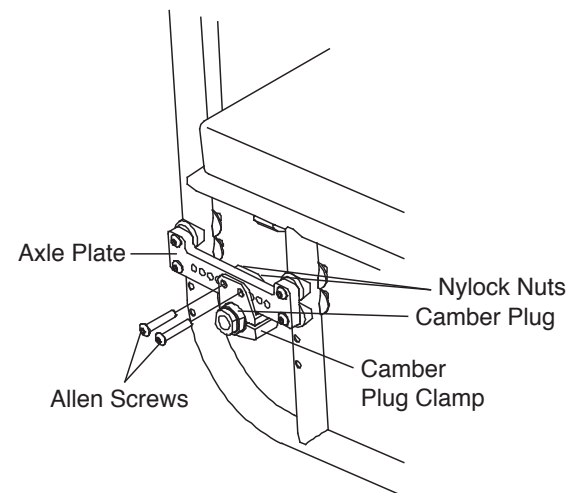

Figure 45
2. Remove the four Allen Screws (two on each side of the chair) that secure the camber plug clamps to the axle plates. See Figure 45.